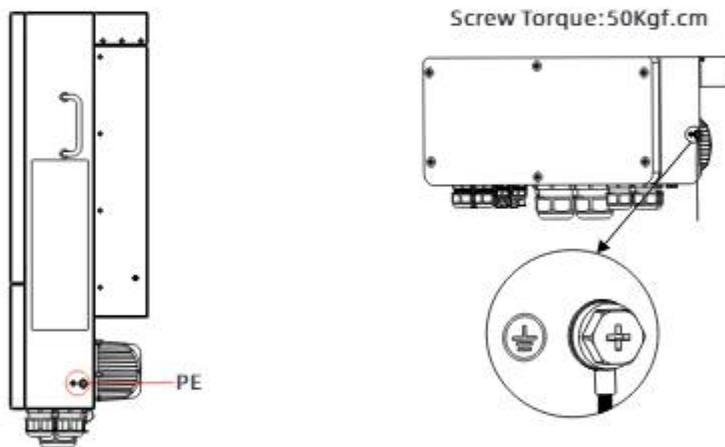

Fig 6.8 Protective earthing position
- 4) The position of the ground points of the WIT 17-25K-HU Hybrid Inverter is shown in Fig 6.8.